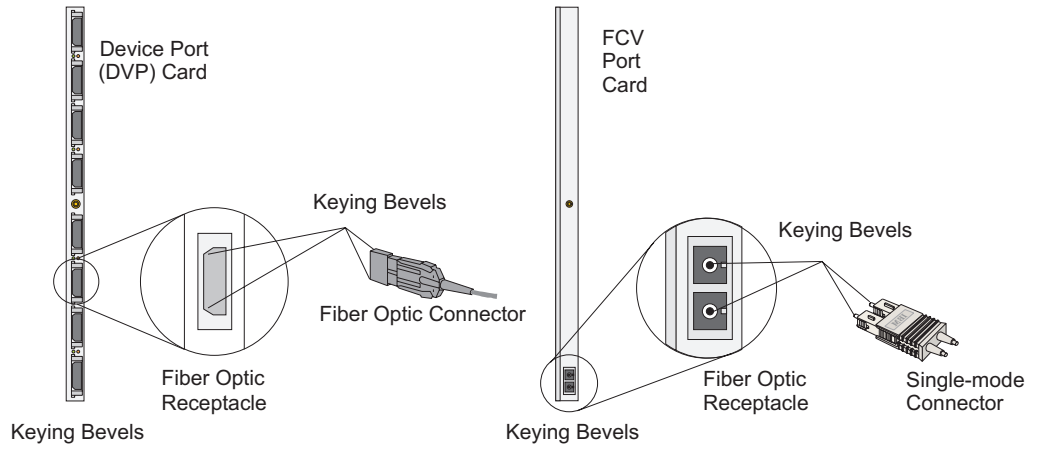
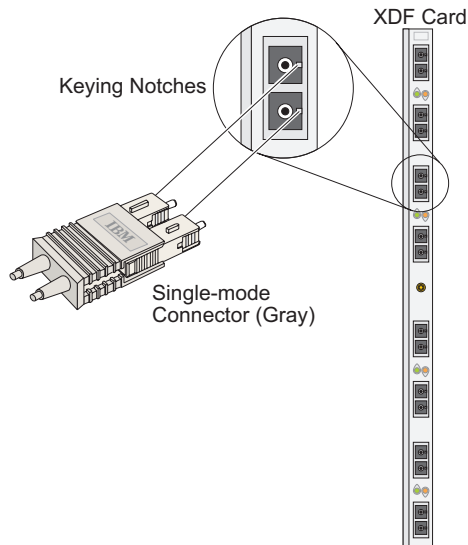

Figure 6-20. Fiber Optic LED (ESCON) and FCV Connector Keying
Figure 6-21. Fiber Optic Single-Mode XDF Connector Keying
- The fiber optic cable connectors are keyed to the receptacles on the device port (DVP) cards. Before coupling, carefully align the keying bevels on the connector and receptacle. Refer to Figure 6-20 and Figure 6-21 for keying differences between single-mode and multimode cable connectors.
4. Connect cables to port receptacles as illustrated in Figure 6-20.